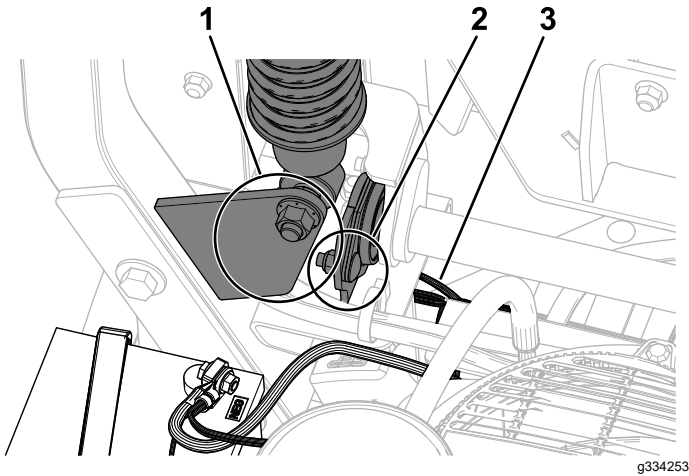

Figure 79
**Note:** For MyRide machines, ensure that the ground cable does not rub against the trailing arm or lower shock mount (Figure 79).